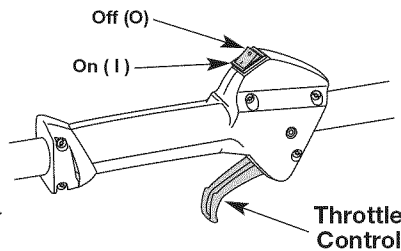

Fig. 6
NOTE: There is no need to turn the unit on. The On/Off Control is in the ON (I) position at all times (Fig. 6).
2. Press and hold the On/Off Control in the OFF (O) position until the engine comes to a complete stop (Fig. 6).